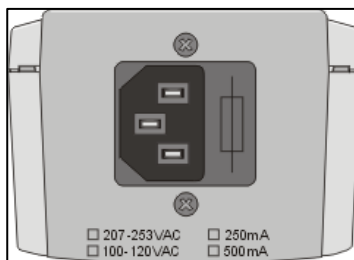

Figure 7: Indoor Unit Bottom Panel
4. After connecting the outdoor unit to the indoor unit using the Indoor-to-Outdoor cable, connect the power cord to the unit's AC socket, located on the bottom panel shown in Figure 7. Connect the other end of the power cord to the AC mains after verifying that the unit is rated for the voltage in the country of use; the AC rating is indicated on the bottom panel of the Indoor unit.